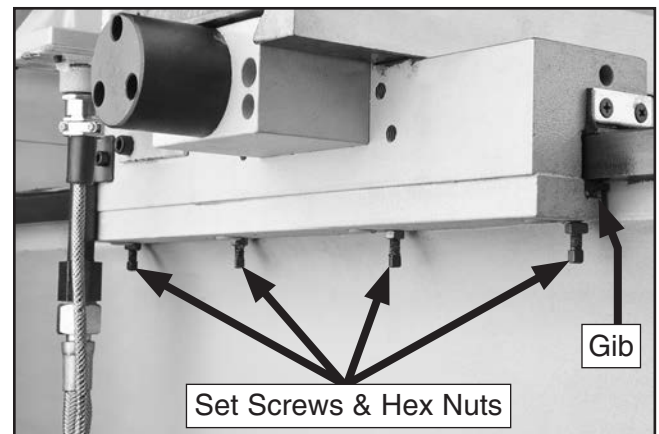

Figure 132. Saddle gib components.
The saddle gib is located on the bottom of the back edge of the cross slide (see **Figure 132**). This gib is designed differently than the cross or compound slide gibs. Instead of being a wedge-shaped plate, it is a flat bar. The gib pressure is applied by four set screws. Hex nuts secure these set screws in place, so they will not loosen during operation.
5. Loosen the hex nuts on the four set screws shown in **Figure 132** on **Page 80**, and adjust the set screws the same amount as follows: